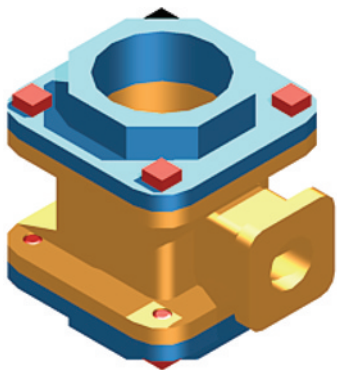

Fig. 17.9 Second example – **UCS** –
Second example – UCS (Fig. 17.9)
13. In the **UCS *WORLD*** move the parts into their correct position relative to each other and with **Union** form a union of the two filleted rectangular extrusions and the main body. Then with **Subtract**, subtract the cylinder from the whole (Fig. 17.9).